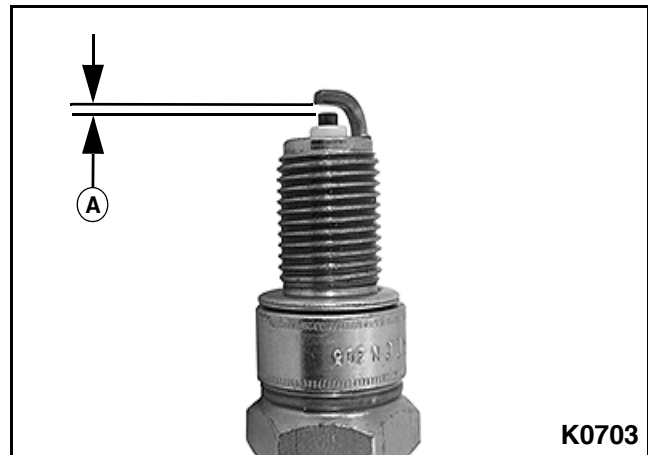

Figure 3-26
2. Check electrode gap (A) using a wire feeler gauge and adjust electrode gap to specification before installation. See Figure 3-26.